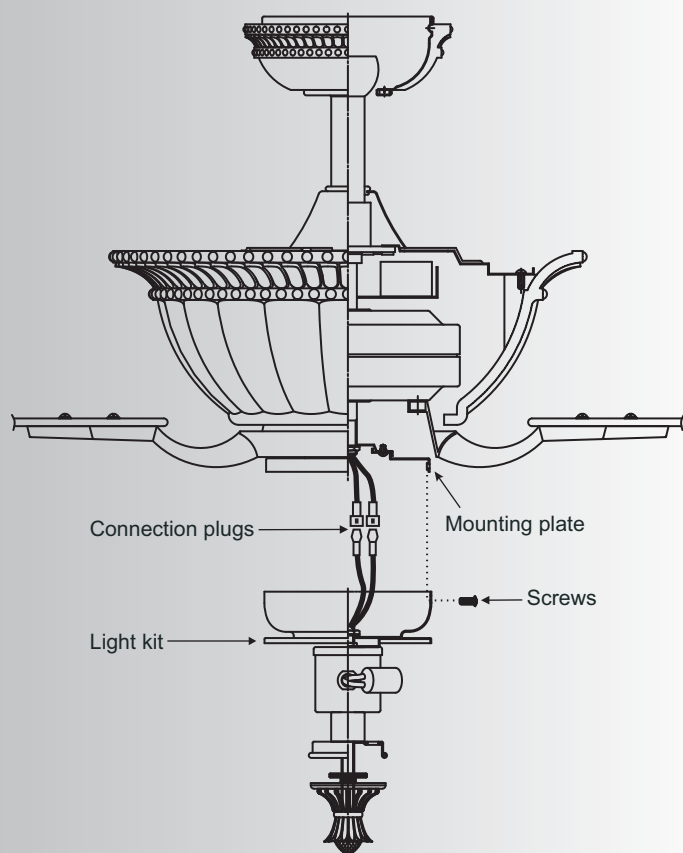

Fig. 19
Step 2. Raise and hold the light kit assembly close to the mounting plate. Connect the white wire connectors from the light kit and the fan by pushing them together. Follow the same procedure for the black wires. (Fig. 19)
Step 3. Tuck the connections neatly into the switch housing and attach the light kit assembly to the ceiling fan. Place the key hole slots on the top edge of the switch housing over the mounting screw heads on the mounting plate. Turn the switch housing until the screw heads are at the narrow end of the key hole slots. (Fig.19)